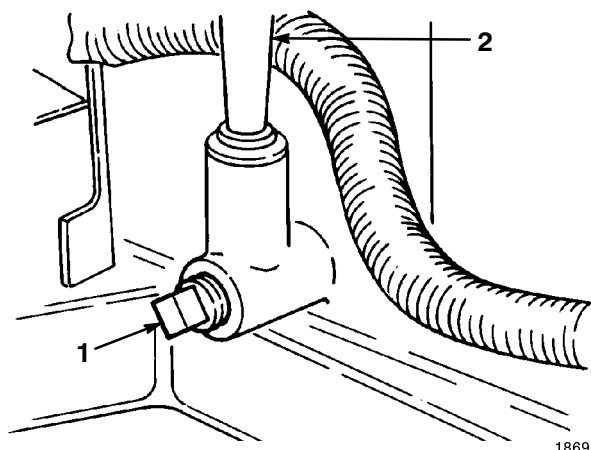

Figure 35
4. Place a pan below the oil dipstick/fill tube and remove the drain plug (Fig. 35).